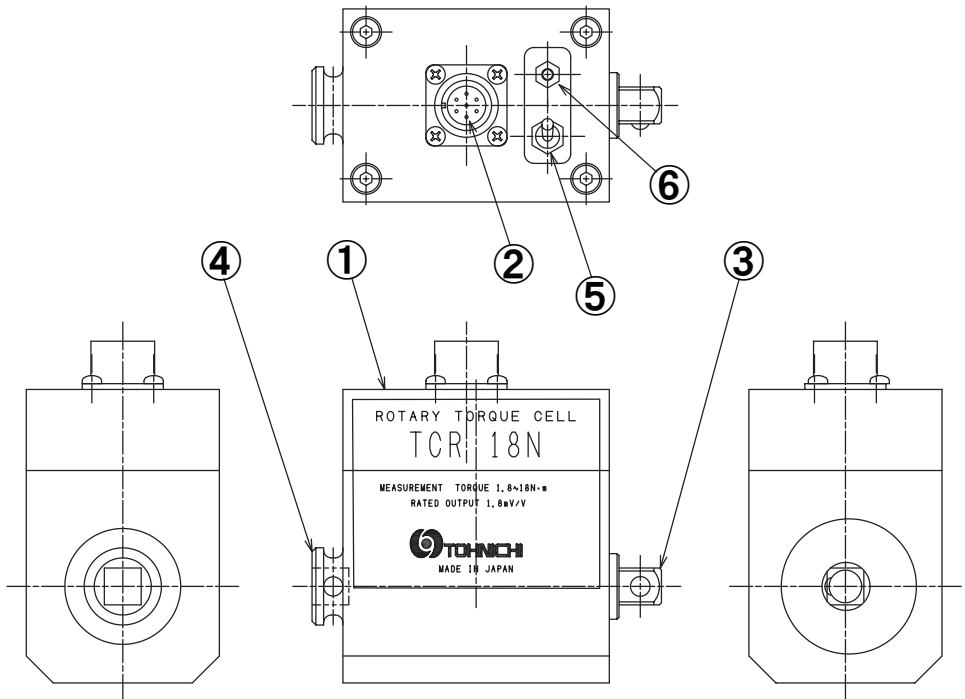

Fig. 1 Component Parts and Illustration of TCR
There are no restrictions on a mounting position such as the vertical direction (crosswise direction in Fig. 1).
Attach the square drive (④ in Fig. 1) on the torque tool, etc. to the TCR hole side.
The square drive on the socket side (③ in Fig. 1) is provided with a steel ball for preventing the socket from dropping. Insert the socket deeply inside.